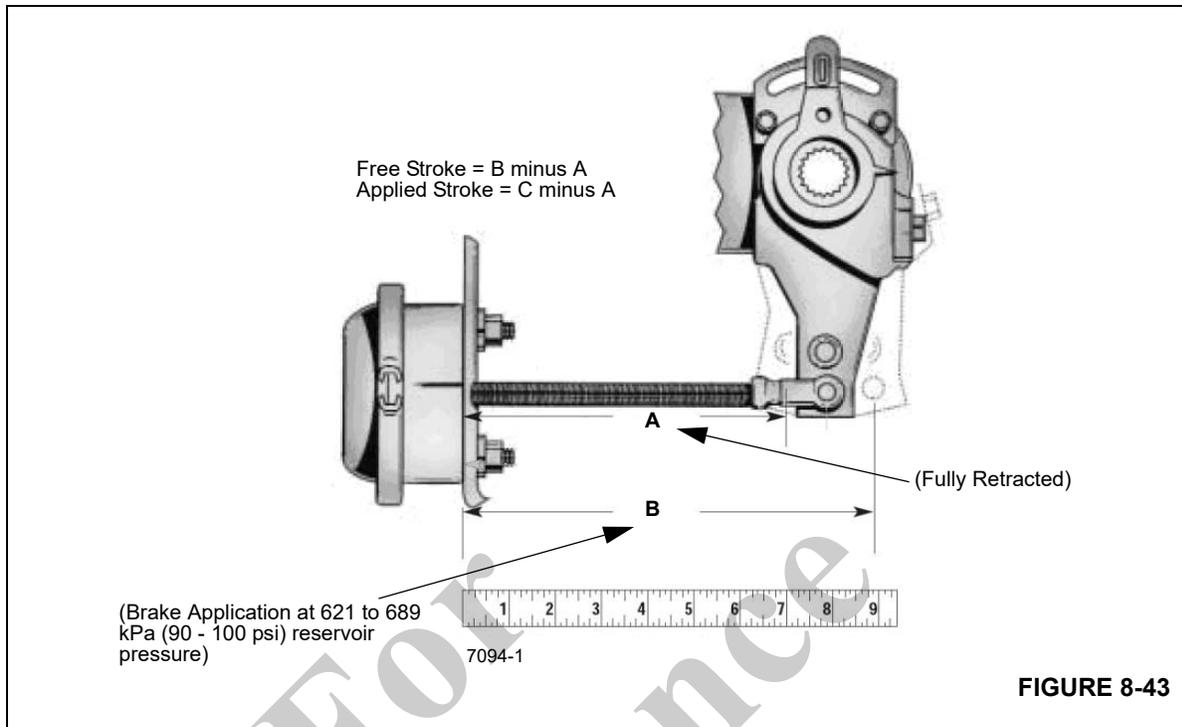

FIGURE 8-43
5. With service brakes released, measure distance from slack adjuster clevis pin to chamber mounting face on each brake. Refer to Dimension "A" in (Figure 8-43).
6. Starting with 621 to 689 kPa (90 to 100 psi) air tank pressure in both primary and secondary systems, fully apply service brakes and hold brakes on. Do not pump the brakes. Measure between the same points as in step 5 on each brake. This is Dimension "B" in (Figure 8-43).
7. Subtract Dimension "A" from Dimension "B" for each brake position (Figure 8-43). This value cannot exceed 5 cm (2 in) on the front brakes or 6.3 cm (2.5 in) on the rear brakes.